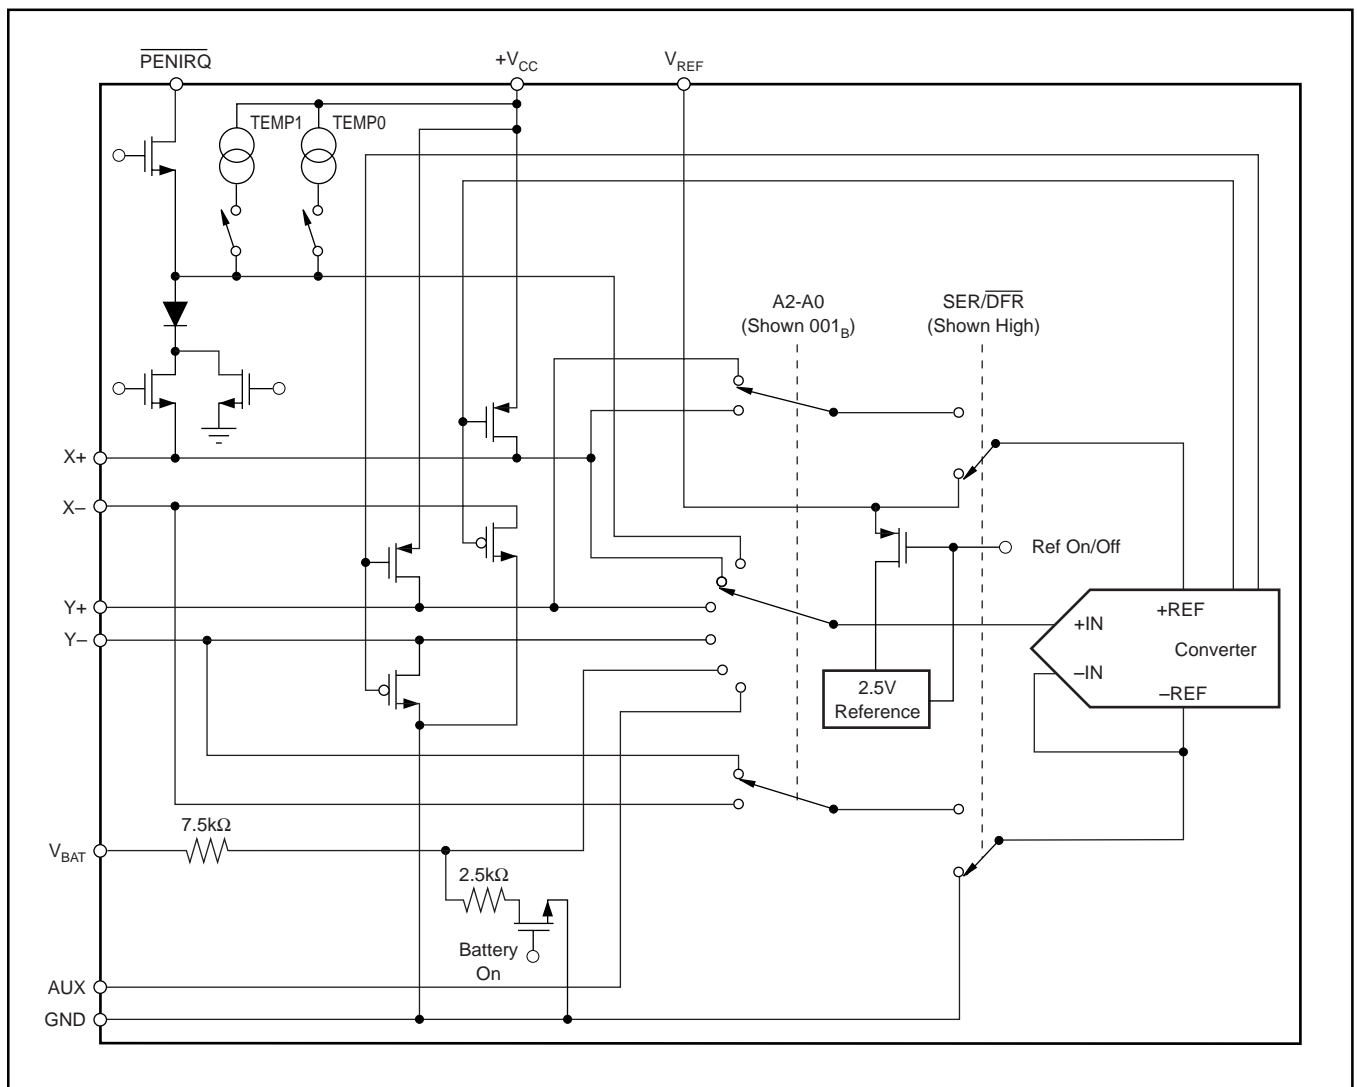

FIGURE 2. Simplified Diagram of Analog Input.
See Figure 2 for a block diagram of the input multiplexer on the ADS7846, the differential input of the ADC, and the differential reference of the converter. Table I and Table II show the relationship between the A2, A1, A0, and SER/DFR control bits and the configuration of the ADS7846. The control bits are provided serially via the DIN pin—see the Digital Interface section of this data sheet for more details.
When the converter enters the hold mode, the voltage difference between the +IN and -IN inputs (see Figure 2) is captured on the internal capacitor array. The input current into the analog inputs depends on the conversion rate of the device. During the sample period, the source must charge the internal sampling capacitor (typically 25pF). After the capacitor has been fully charged, there is no further input current. The rate of charge transfer from the analog source to the converter is a function of conversion rate.
The voltage difference between  $+REF$  and  $-REF$  (shown in Figure 2) sets the analog input range. The ADS7846 operates with a reference in the range of 1V to  $+V_{\text{CC}}$ . There are several critical items concerning the reference input and its wide voltage range. As the reference voltage is reduced, the analog voltage weight of each digital output code is also reduced. This is often referred to as the LSB (least significant
**Addressing**—The next three bits (A2, A1, and A0) select the active input channel(s) of the input multiplexer (see Tables I, II, and Figure 2), touch screen drivers, and the reference inputs.
**$SER/\overline{DFR}$** —The  $SER/\overline{DFR}$  bit controls the reference mode, either single-ended (high) or differential (low). The differential mode is also referred to as the ratiometric conversion mode and is preferred for X-Position, Y-Position, and Pressure-Touch measurements for optimum performance. The reference is derived from the voltage at the switch drivers, which is almost the same as the voltage to the touch screen. In this case a reference voltage is not needed, as the reference voltage to the ADC is the voltage across the touch screen. In the single-ended mode, the converter reference voltage is always the difference between the  $V_{REF}$  and GND pins (see Tables I and II, and Figures 2 through 5 for further information).